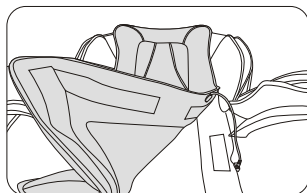

Figure 12
- Plug the heat plug of the back cushion into the heat hole on the backrest, put the back cushion tidily on the backrest. (figure 12)